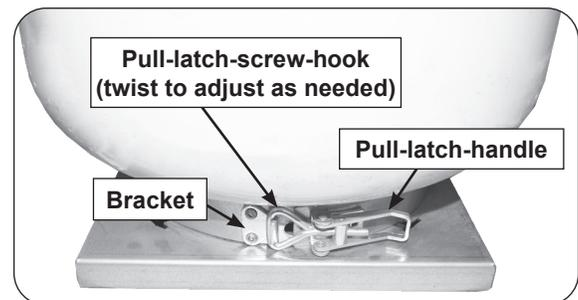

Fig. 2-3 Latch propane tank
13. Secure the L.P. tank into the tank bracket by using the pull-latch-collar. See the steps below and Fig. 2-3.